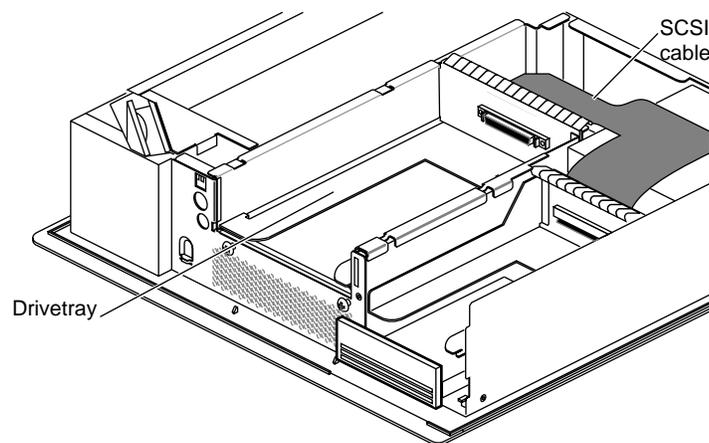

Figure 2-7 Locating the SCSI Cable
3. Disconnect the SCSI cable from the connector on the back of the 5-1/4" drive tray. See Figure 2-7.